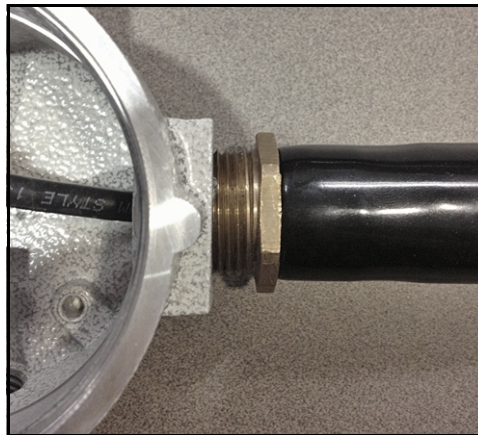

Figure 9: Torquing the Cable Gland
4. Torque the cable gland coming from the electronics main housing into the other 3/4" NPT port until there are at least five threads of engagement (see *Figure 9* below).